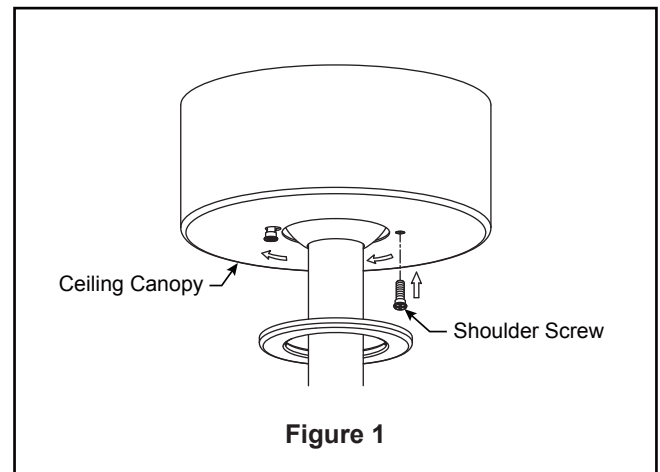

Figure 1
1. Assemble canopy by rotating key slot in canopy over shoulder screw in hanger bracket, taking care not to pinch the wires. Fully assemble and tighten second shoulder screw that was previously removed, then tighten another shoulder screw. (Figure 1)
1. Secure the five blades using the 1/4"-20 pan head screws with lock washer/flat washer through the holes located on the bottom of the motor assembly. (Figure 1)